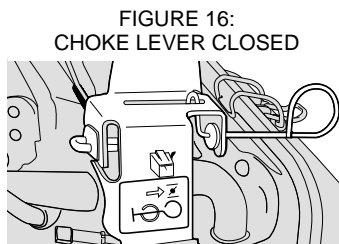
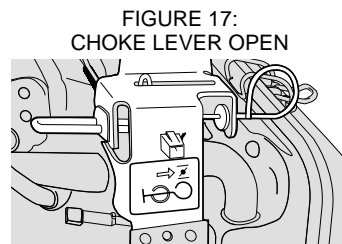

FIGURE 16:
FIGURE 17:
4. If the engine is cold, pull the choke lever out to the closed position shown in figure 16. If the engine is hot, set choke to open position shown in figure 17.
7. As the engine warms up, move the choke lever to the open position shown in figure 17.
5. As the engine warms up, move the choke lever to the open position as shown in figure 17.